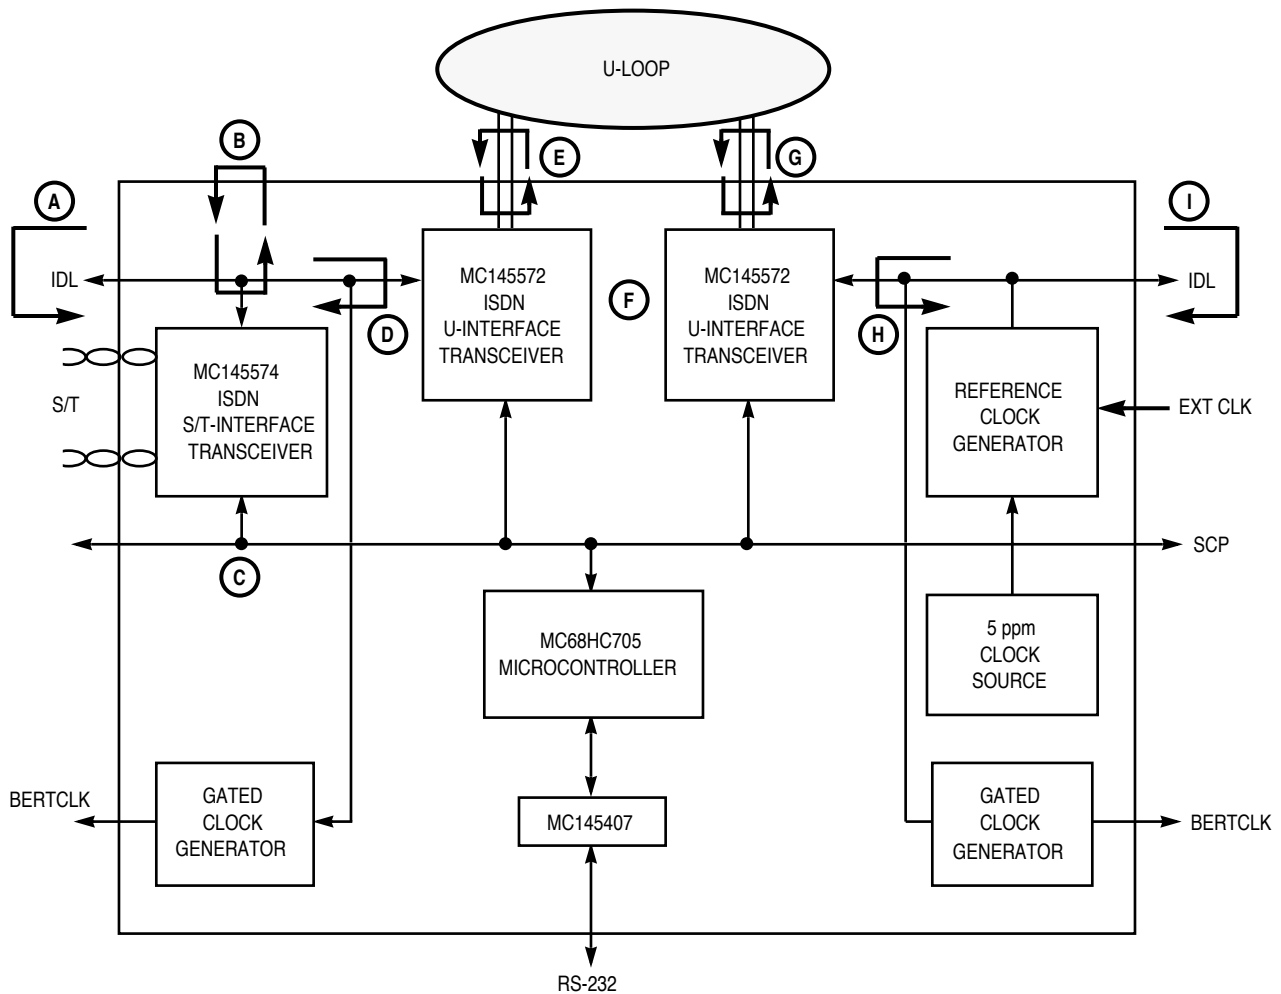

Figure 2-8. Loop-Back Modes for the MC145572EVK
**2.5.1.1 OTHER LOOP-BACK TESTS.** A variety of other loop-back modes may be implemented. Some modes are accessible through the activation menu while others require a working knowledge of the SCP registers and are accessed through the command line interface of the monitor program. Refer to Figure 2-8 and the text that follows for a description of some of these loop-backs. Refer also to the MC145572 data book loop-back section. The menu items referred to are for the combined NT/LT mode.